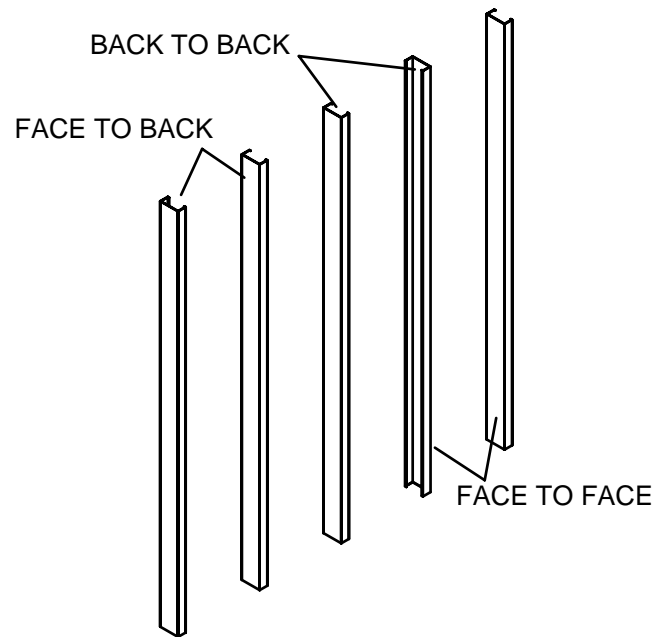

fig. 11
1. Determine the construction techniques used during the installation of the metal studs — Face to Back, Back to Back, or Face to Face. If the metal studs have been installed face to back (standard procedure), or back to back, proceed to the next step. (please see fig. 11) If the metal studs have been installed face to face, proceed to step 4.